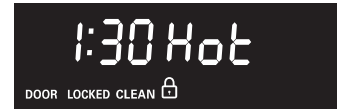

Fig.7
1. The time of day, "Hot, DOOR LOCKED" and "CLEAN" icon will remain in the display (See Fig. 7).